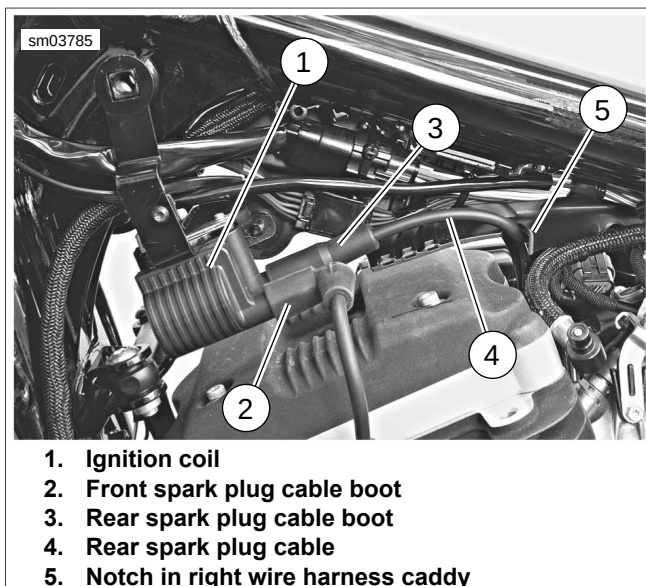
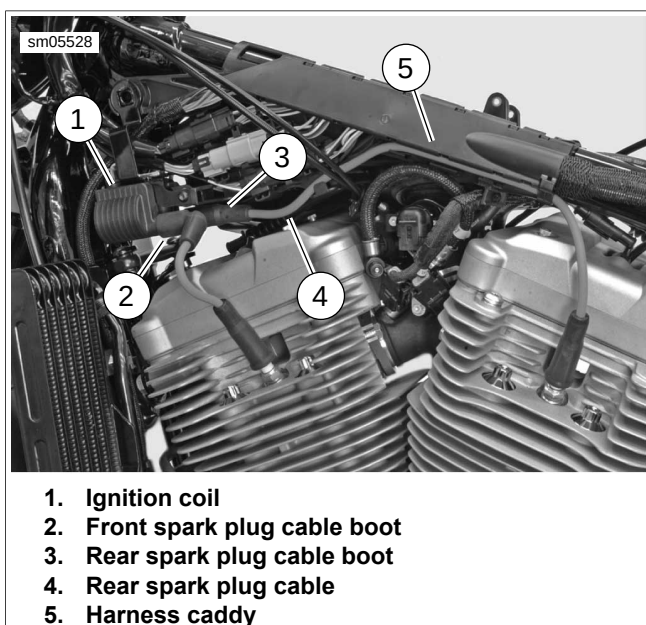
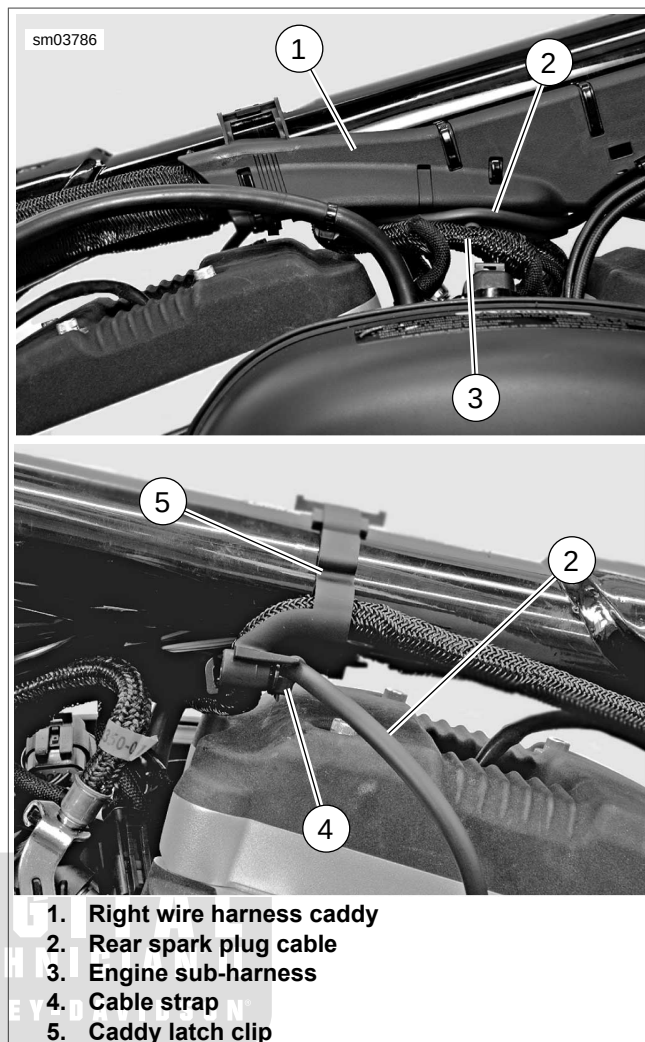

Figure 6-26. Spark Plug Cable Routing: XL Models
Figure 6-27. Spark Plug Cable Routing: XR 1200X
Figure 6-28. Rear Spark Plug Cable Routing: XL Models
6. See Figure 6-26 or Figure 6-27. Pull front spark plug boot and cable (2) from left side ignition coil (1) tower.
7. Pull rear spark plug boot (3) and cable from right side ignition coil tower.
9. **XL Models:** Disengage rear spark plug cable from notch in right wire harness caddy (5). Remove the cable.
10. **XR 1200X:** See Figure 6-27. Disengage rear spark plug cable from wire harness caddy (5). Remove the cable.
11. **XL Models:** See Figure 6-28. Remove rear spark plug cable (2) from curved trough on wire harness caddy (1).
- a. Cut cable strap (4).
- c. Remove cable strap from mounting boss on caddy latch clip (5). Discard cable strap.
1. See Figure 6-26 or Figure 6-27. Plug rear spark plug cable boot (3) into right side ignition coil (1) tower.
2. **XL Models:** Route cable between wire harness caddies, and down through notch (5) in right caddy, toward right side of engine.
3. **XR 1200X:** Route rear spark plug cable through harness caddy (5) as shown.
4. **XL Models:** See Figure 6-28. Route rear spark plug cable (2) in trough in right wire harness caddy (1), over top of engine sub-harness (3) and back toward left side of engine.
7. See Figure 6-26 or Figure 6-27. Plug front spark plug cable and boot (2) into left side ignition coil (1) tower. Plug other end of cable onto front spark plug until it clicks.